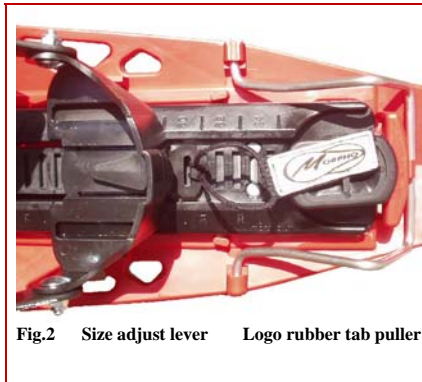

Fig.2 Size adjust lever Logo rubber tab puller
3. Adjust the heel thrust to the proper size of your boot using the Morpholock system. See Fig.2:
6. **Snowshoeing:** keep **articulated binding plate free** from snowshoe base when going flat, traverse, uphill or downhill: the **RTS** unlocked from base locker/step in all cases. The articulated binding must **lay flat** on the snowshoe base or **stepping** on the extra high **metallic climbing step** when climbing steep slopes: for this purpose rotate the **climbing step** forward in its upwards position (fig.3) from its idle position (fig.2) with your gloves.
7. **After use, untighten ankle strap** first: push on the **release lever** of the ratchet buckle and pull out the ankle strap from the notch strap while keeping pressure on the **buckle push release lever**. Then untighten the 2 toe straps: pull up the ends of the quick buckles and loosen the webbings. See fig 3. Remove your boot. **To store** the snowshoe push the articulated binding on the base and lock it to the base by **rotating the RTS** so as to insert it into the **base locker/step**. See fig.2
When rotating backward metallic climbing step to its idle position make sure to fully push it down until it is blocked by the 2 snowshoe base **rear hooks**. (fig.2)